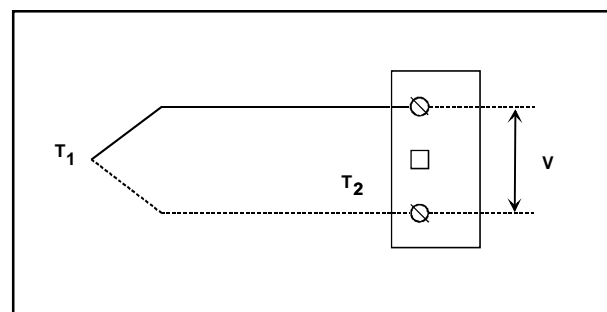

FIGURE 2 Temperature Transmitter T/C Circuit
Figure 2 shows how this is implemented with a temperature transmitter. The hot junction is at the thermocouple, and the cold junction is at the transmitter's terminal strip. The voltage produced at the cold junction is proportional to the temperature difference between the thermocouple's hot junction and a transmitter's terminal strip. A reference junction sensor is typically used to measure the temperature of the terminal strip. By measuring the reference junction (T_2) and the voltage (V), the temperature at the hot junction (T_1) can be determined.